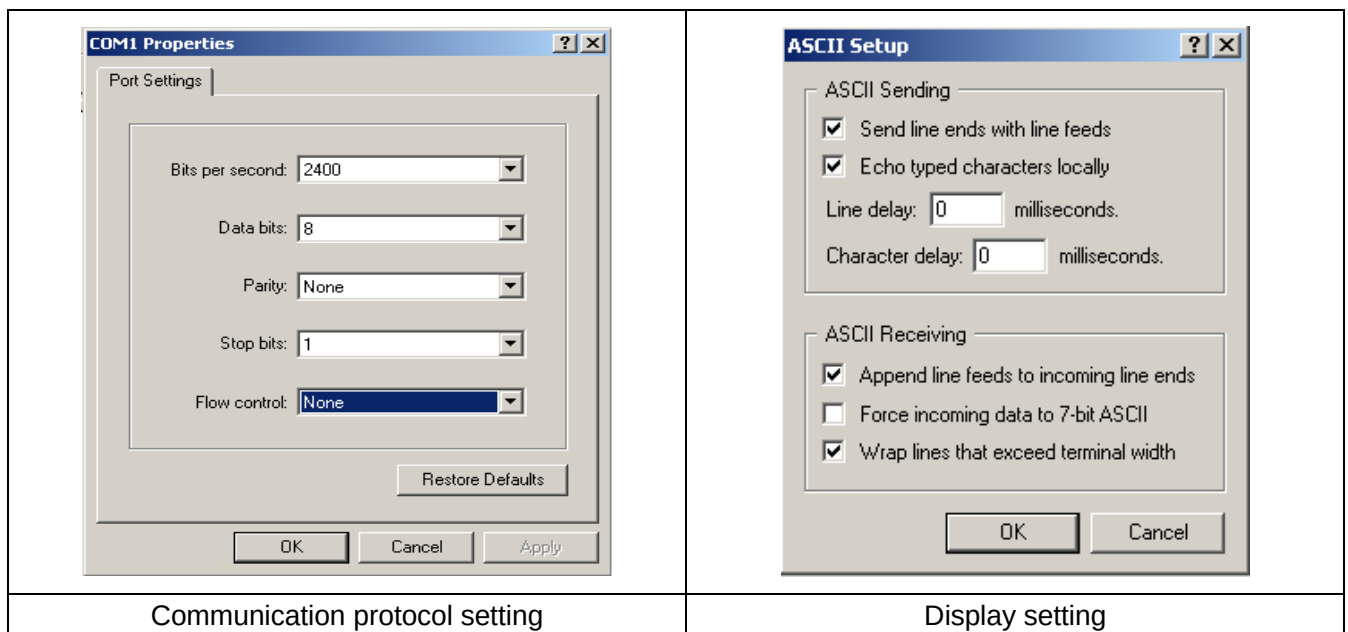

Figure 7.2 Hyper terminal setting
1. Connect the RS232 port of the UPS to the RS232 port of the computer with RS232 cable. Choose the “Start>>Program>>Accessory>>Communication>>Hyper terminal” and start Hyper terminal application. Set the COM port for “COM1” and the other setting as Figure 7.2.